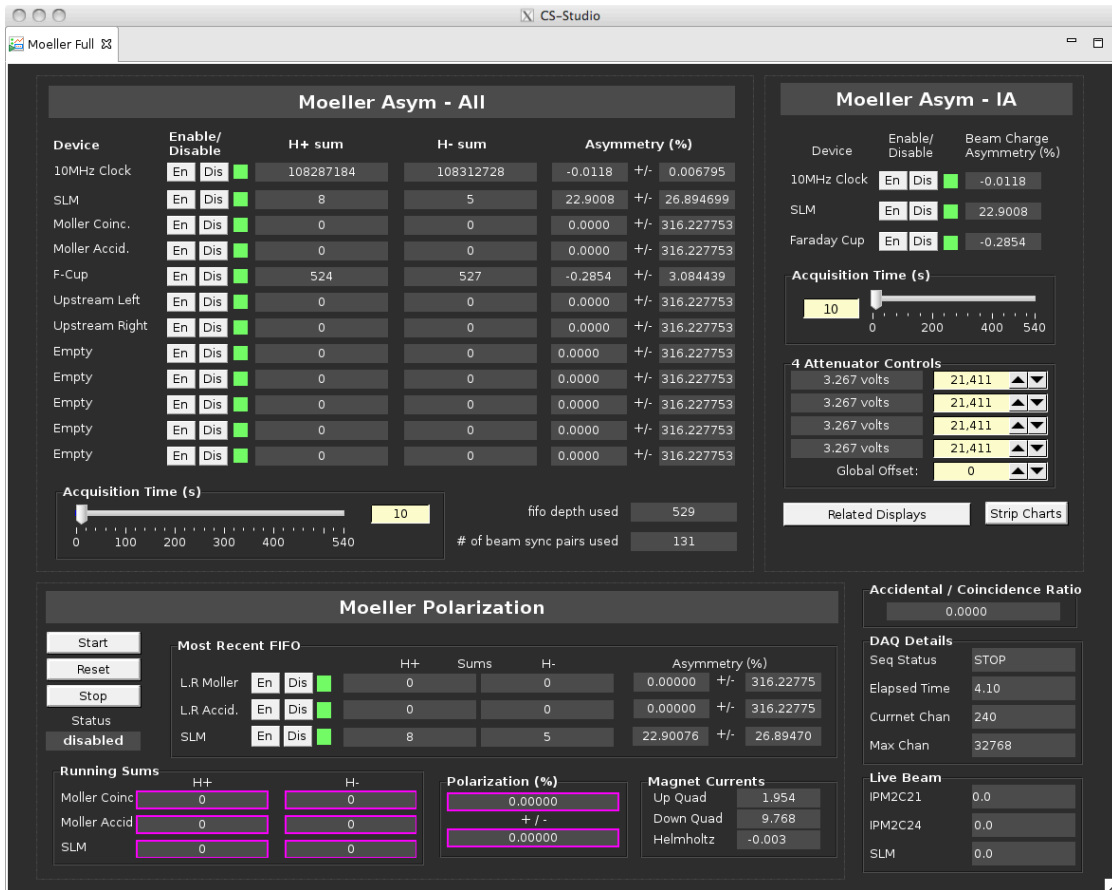

Figure 1: The main Möller Epics expert GUI.
- (a) the "Moeller Asym - All" GUI, see Fig.1 contains all the helicity gated scalers, charge asymmetry, and the beam polarization¹. It has several controls for the measurement and monitoring: